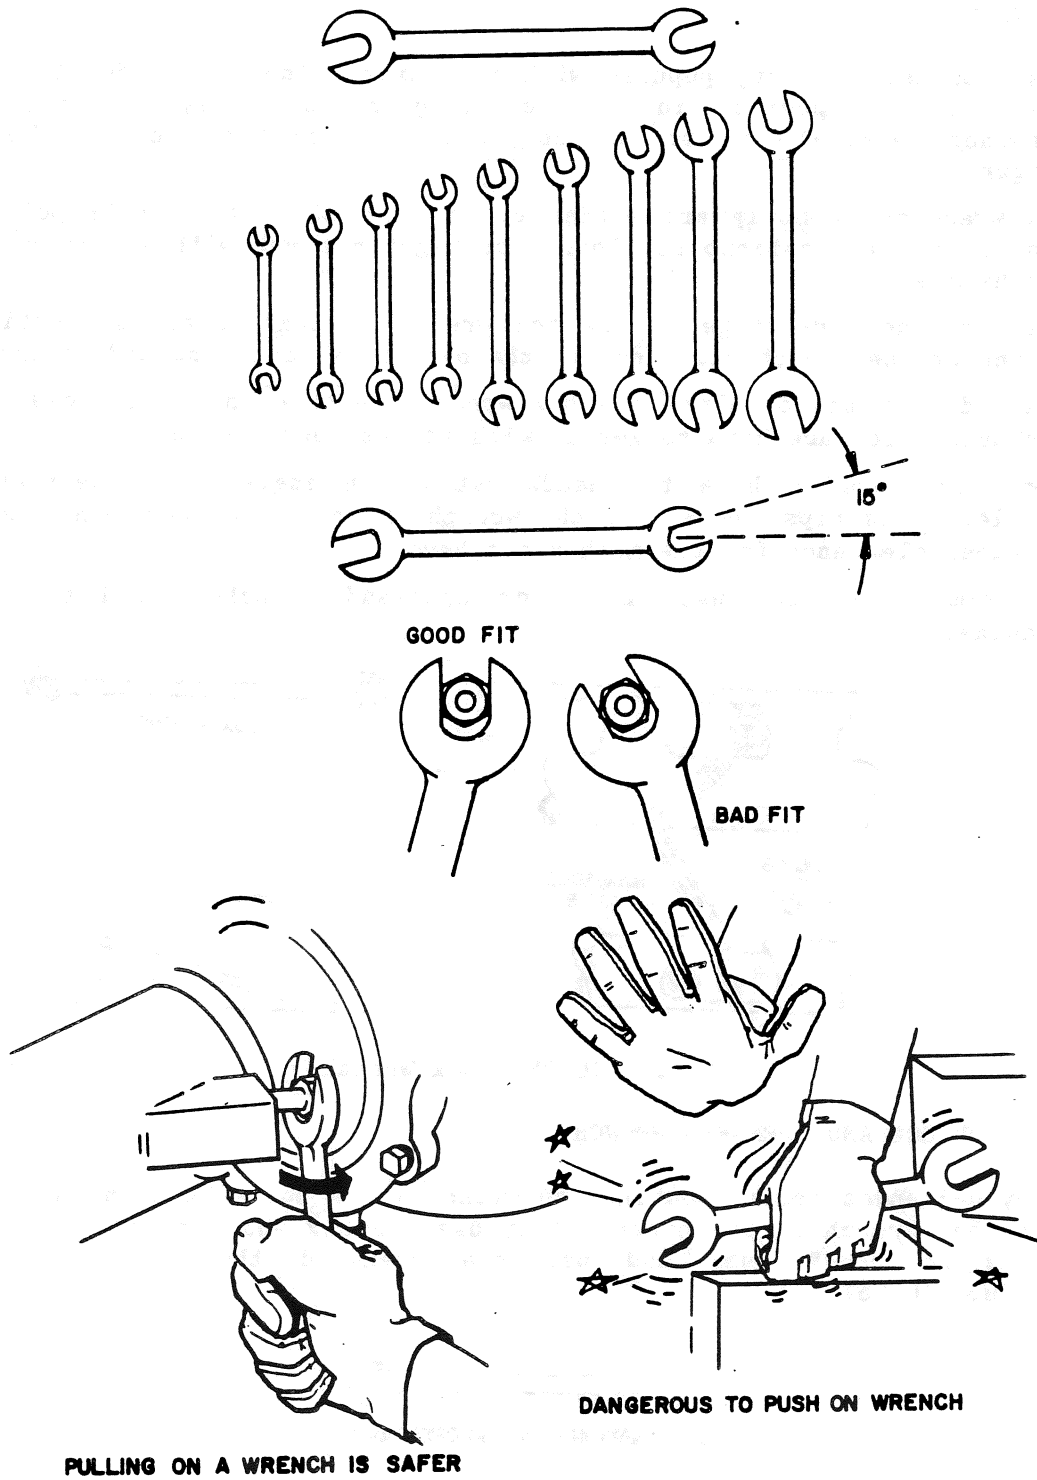

Figure 10.24. Open End Wrenches
1. Solid non-adjustable wrenches with openings in each end are called open-end wrenches. The average set in a tool kit numbers about 10 wrenches with openings that range from 5/16 to 1 inch. This combination of sizes will fit most of the nuts, cap-screws and bolts normally used. (Figure 10.24)
- C. Always PULL on a wrench----don't PUSH. If one pushes on a wrench and the nut breaks loose, you will invariably strike your knuckles. (Figure 10.24)